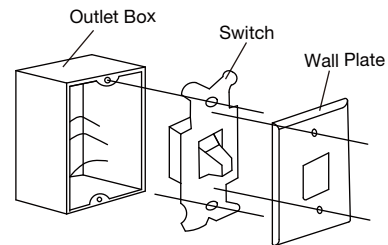

Fig. 29
**Step 1.** Remove the existing wall plate and the old switch from the wall outlet box. Disconnect wires. (Fig. 29)